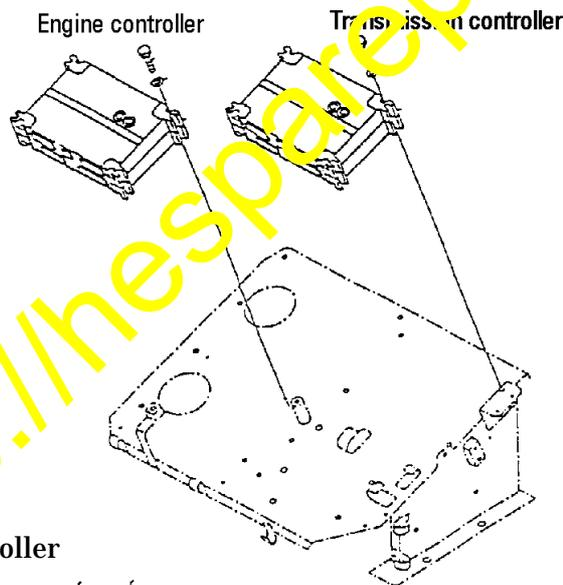
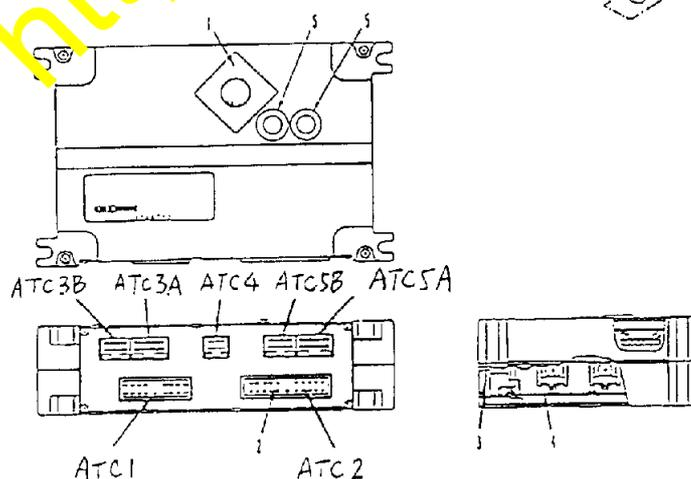
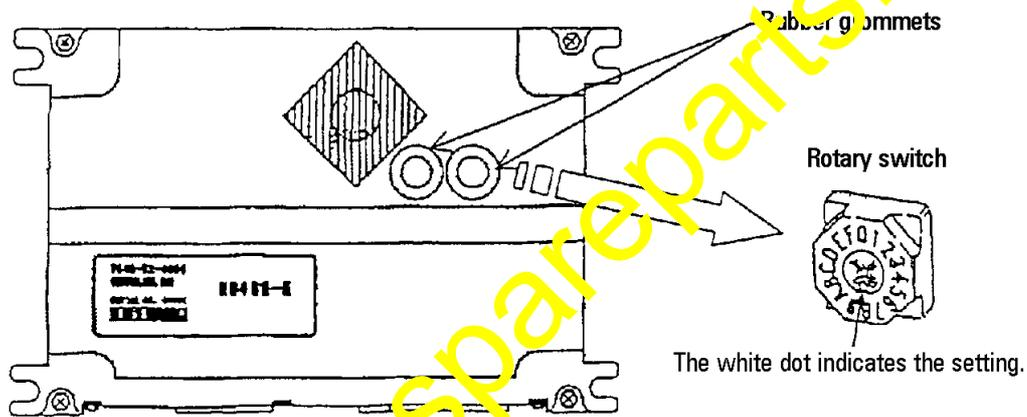
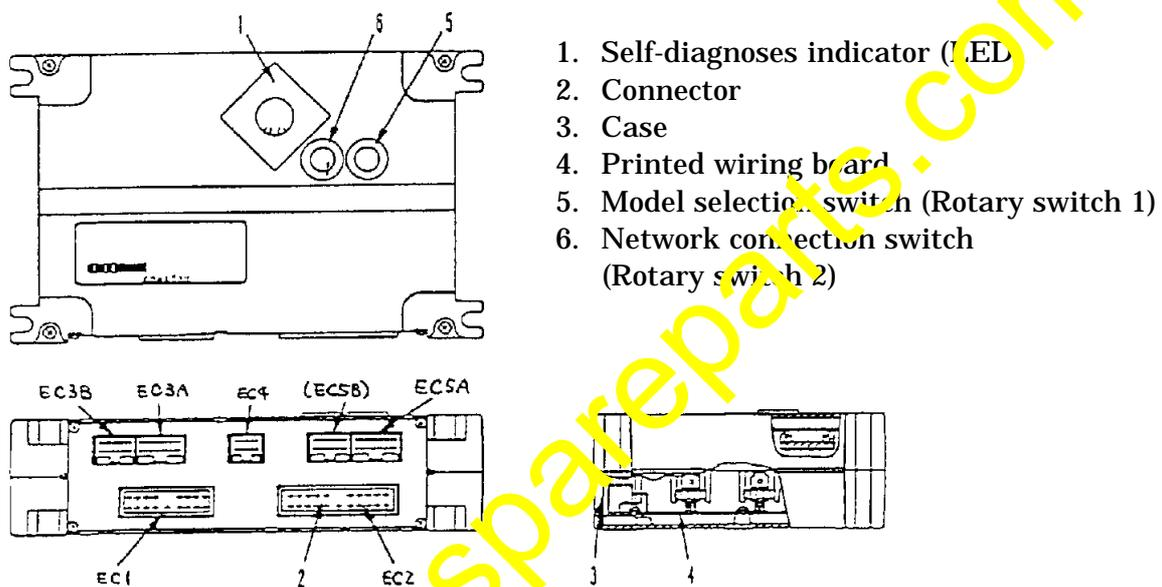

Fig.1
Fig. 2
Fig. 3
Fig. 5
(Refer to Fig. 1 and Fig. 2.)
(3) Unscrew the mounting bolts (4 bolts) for the transmission controller and remove the controller (refer to Fig. 1).
(4) Install the new transmission controller (7818-53-4003) on the chassis using the mounting bolts.
☆ Refer to “Testing and Adjusting” in the Shop Manual for the location of the rotary switches (refer to Fig. 2 and Fig. 3).
Since the sizes of the connectors ATC3A and ATC5A and the connectors ATC3B and ATC5B are the same, be careful not to make connection errors (refer to Fig. 2).
- (8) Next, disconnect all engine controller connectors (refer to Fig. 1 and Fig. 5).
- (9) Unscrew the mounting bolts (4 bolts) for the engine controller and remove the controller (refer to Fig. 1).
- (10) Install the new engine controller (7818-52-4002) on the chassis using the mounting bolts.
Since the sizes of the EC3A and EC5A connectors are the same, be careful not to make connection errors (refer to Fig. 5).